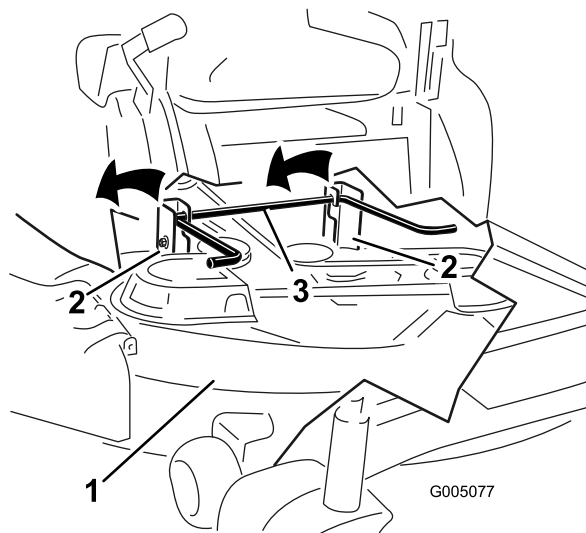

Figure 58
- Using the mower-deck handles, lift the mower deck and hanger brackets clear of the rear lift rod and lower the mower carefully to the ground (Figure 58 and Figure 60).
5. Lift the rear of the mower deck and guide the hanger brackets over the rear lift rod (Figure 58).
- Secure the rod and spring assembly by twisting it so that the short end of the rod can be placed behind the front bracket welded to the deck (Figure 58).